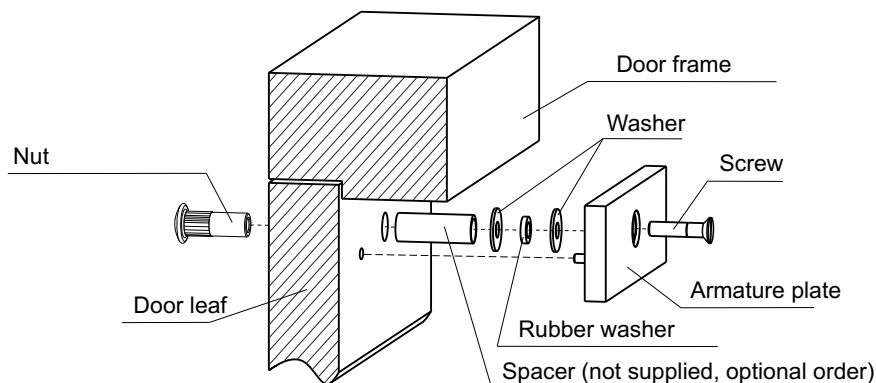

Figure 1 – Armature plate mounting
2. Fix the armature plate on the inner side of the door, using fastening kit (Figure 1).